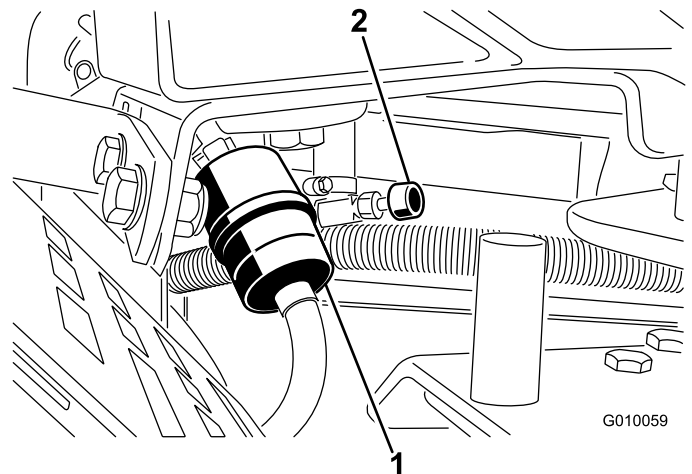

Figure 49
2. Close the fuel-shutoff valve (Figure 49).
3. Squeeze the ends of the hose clamps together and slide them away from the filter (Figure 49).
5. Install a new filter and move the hose clamps close to the filter (Figure 49).
7. Open the fuel-shutoff valve (Figure 49).
3. Loosen the hose clamp at the fuel filter and slide it up the fuel line away from the fuel filter (Figure 49).
4. Pull the fuel line off the fuel filter (Figure 49). Open the fuel-shutoff valve and allow fuel to drain into a fuel can or drain pan.
5. Install the fuel line onto the fuel filter. Slide the hose clamp close to the fuel filter to secure the fuel line (Figure 49).